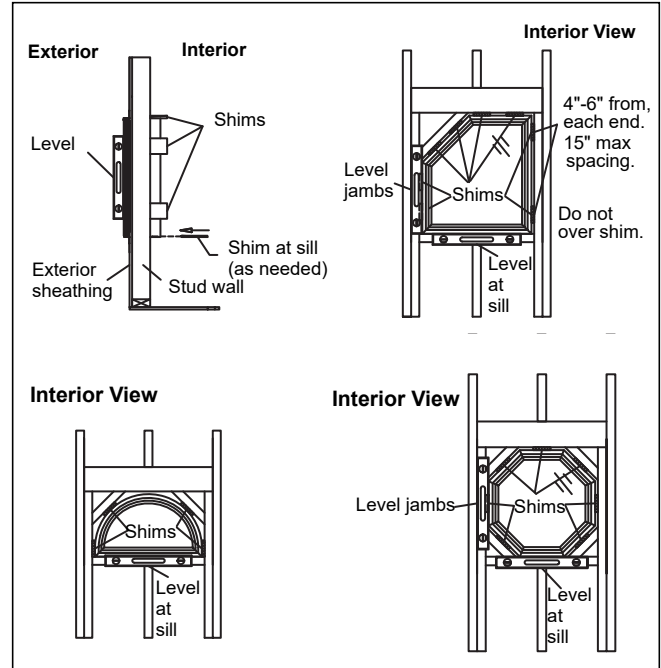

Figure 5
2. Center the unit in the opening and level the sill. Depending on interior or exterior installation, press unit against interior sash stop or blind stop. See figure 5. For units without interior or exterior stops, install stops or align with predetermined plane. Shim and fasten side jambs approximately 2" (51) up from the sill.